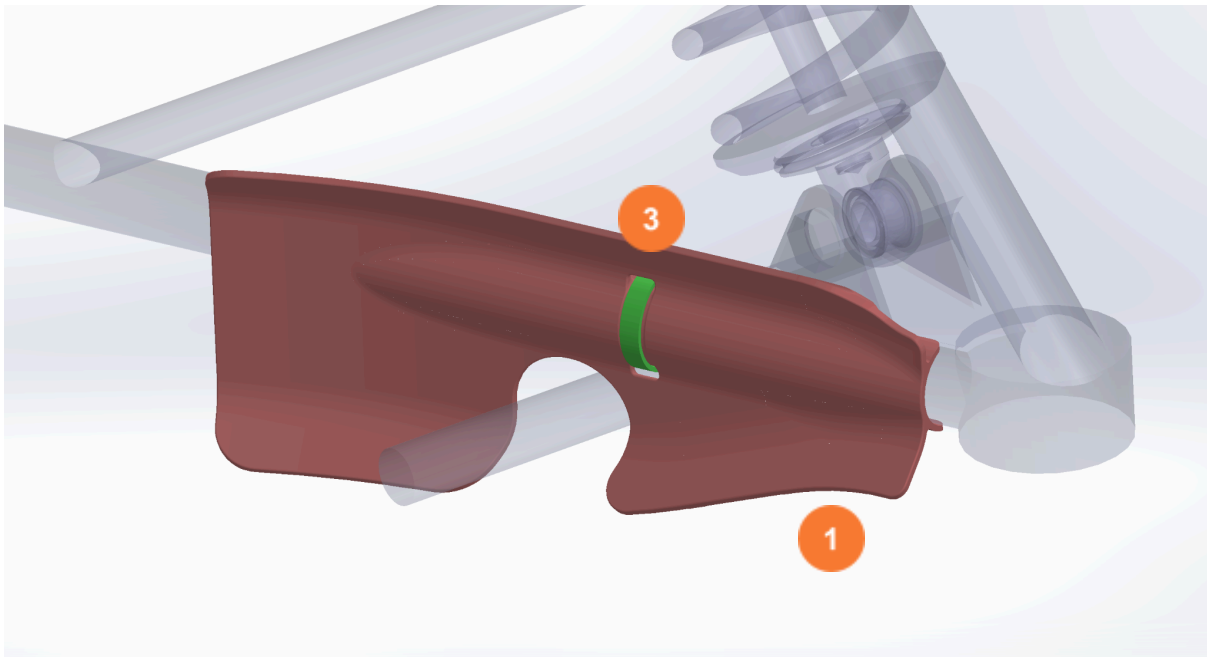
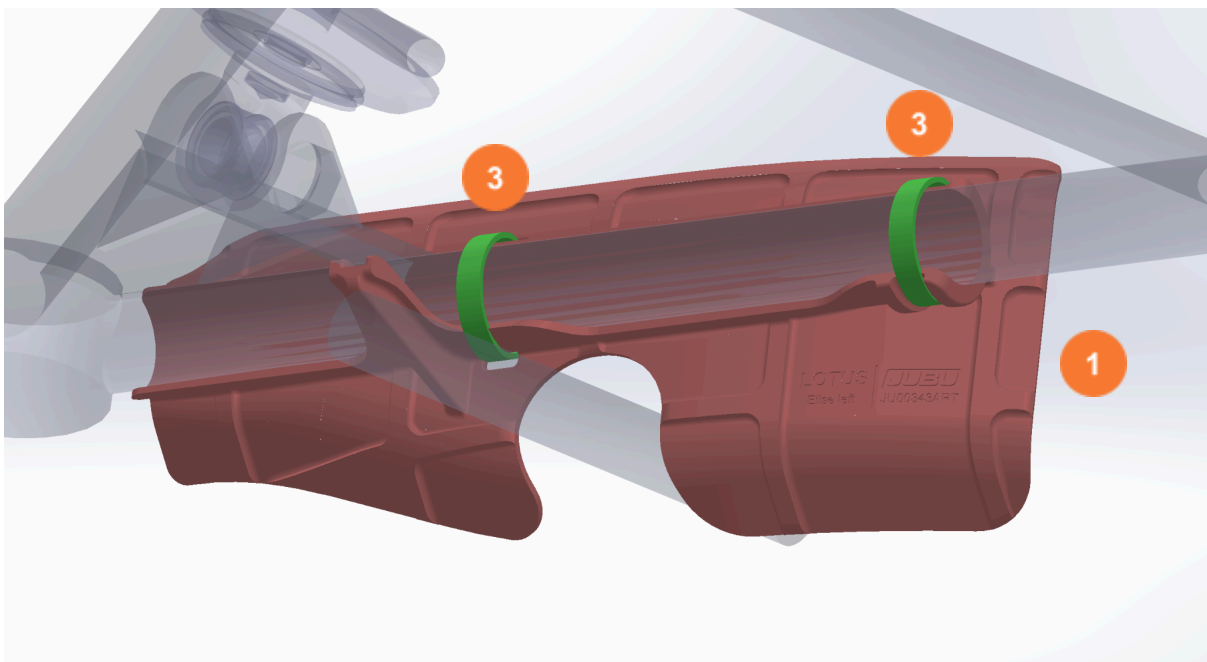

Fig. 2: Correct assembly and placement of the cable ties (front left) (I)
Fig. 3: Correct assembly and placement of the cable ties (front left) (II)
1. Please mount the brake cooling ducts (1 & 2) as shown on Fig. 2 and Fig. 3. Use the supplied cable ties.